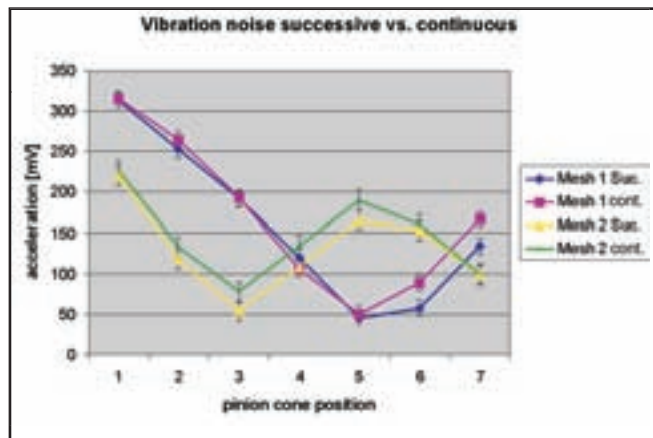

Figure 14—Vibration noise successive checking vs. continuous checking.
**Correlation of successive check with continuous checks of vibration noise.** Visualized for mesh 1 and mesh 2 (see Fig. 14), the correlation of both checking methods can be recognized.